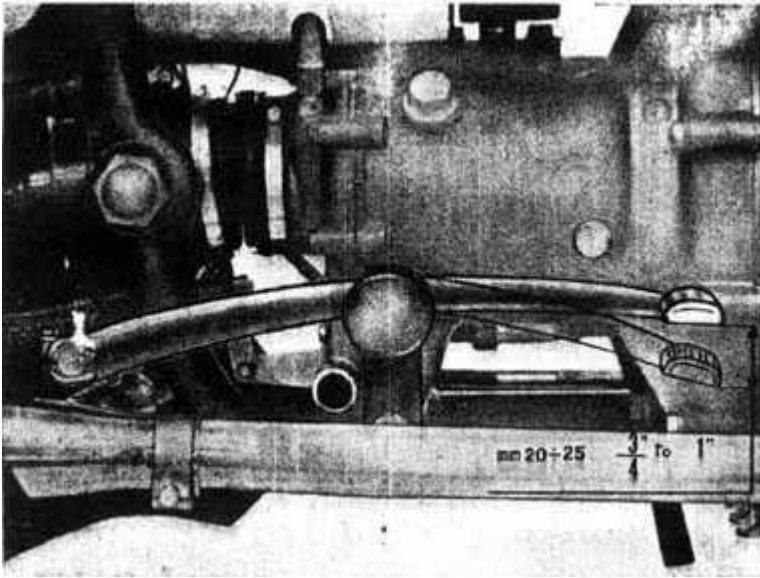

Fig. 33
**Rear brake pedal** (See fig. 33) [return to index]